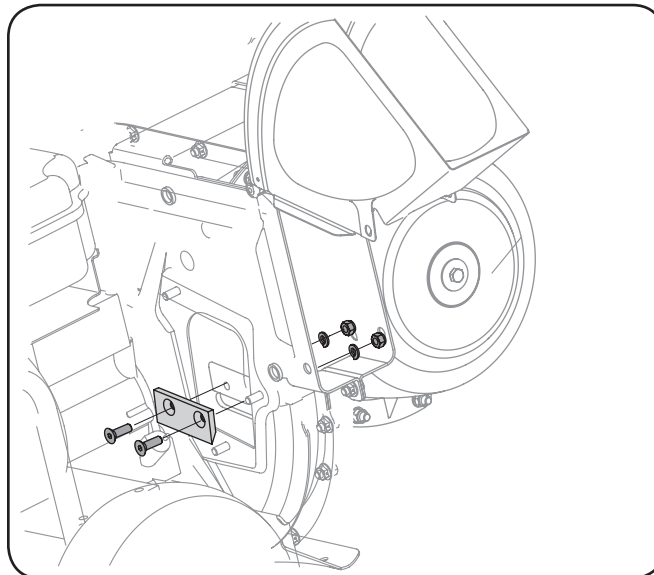

Figure 7-2
5. Remove the blade by removing the internal hex screws, lock washers, and hex nuts which secure it to the impeller. See Figure 7-2. Retain the hardware.